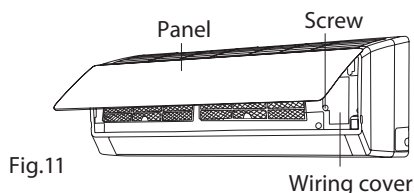

Fig.11
1. Open the panel, remove the screw on the wiring cover and then take down the cover. (As show in Fig.11)